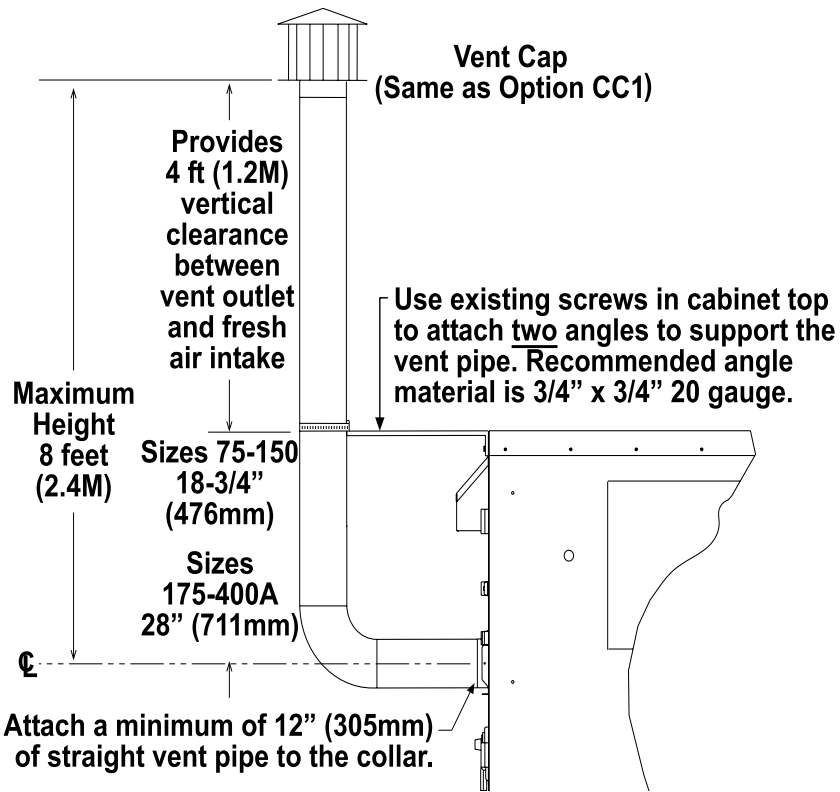

Figure 15. Vent Cap for Vertical Vent—Model RDH (Refer to Table 21)
- Vent terminal components for model RDH are shown in Figure 15 and listed in Table 21.